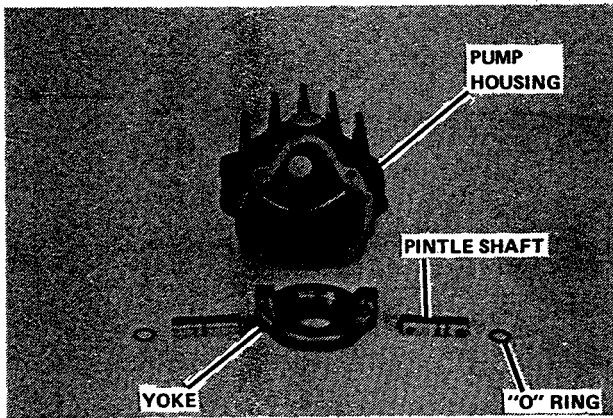

Figure 27.
27. Figure 27 illustrates how the items removed in step 26 will appear.